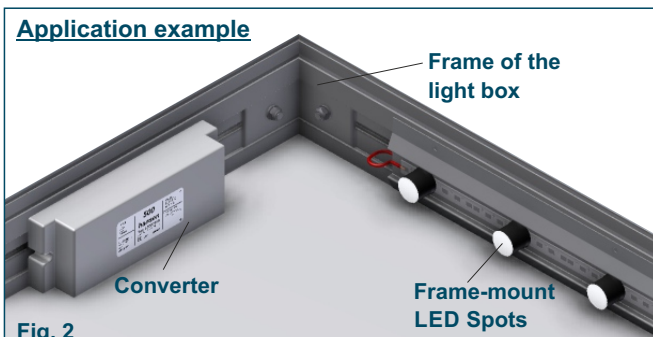

Fig. 2
- The Frame-mount LED Spots are designed to be installed on the inside of the light box frame with the LEDs facing towards the opposite frame side, shining into the box parallel to the rear panel (see fig. 2).
- The converters can be installed inside the light box. This is usually done by fixing them to the two frame sides carrying no LEDs (see figure 2).